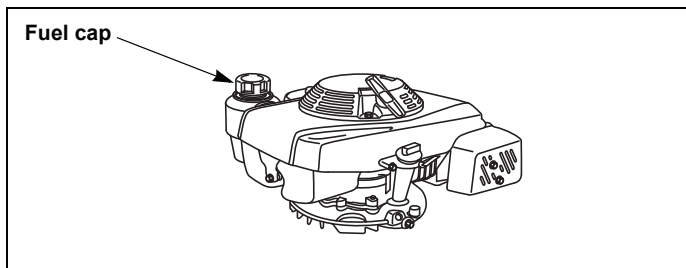

Fig. 4-19
3. Check the fuel level and fill fuel tank if necessary. Make sure the fuel cap is screwed on properly and tight before beginning operation. Fig. 4-19